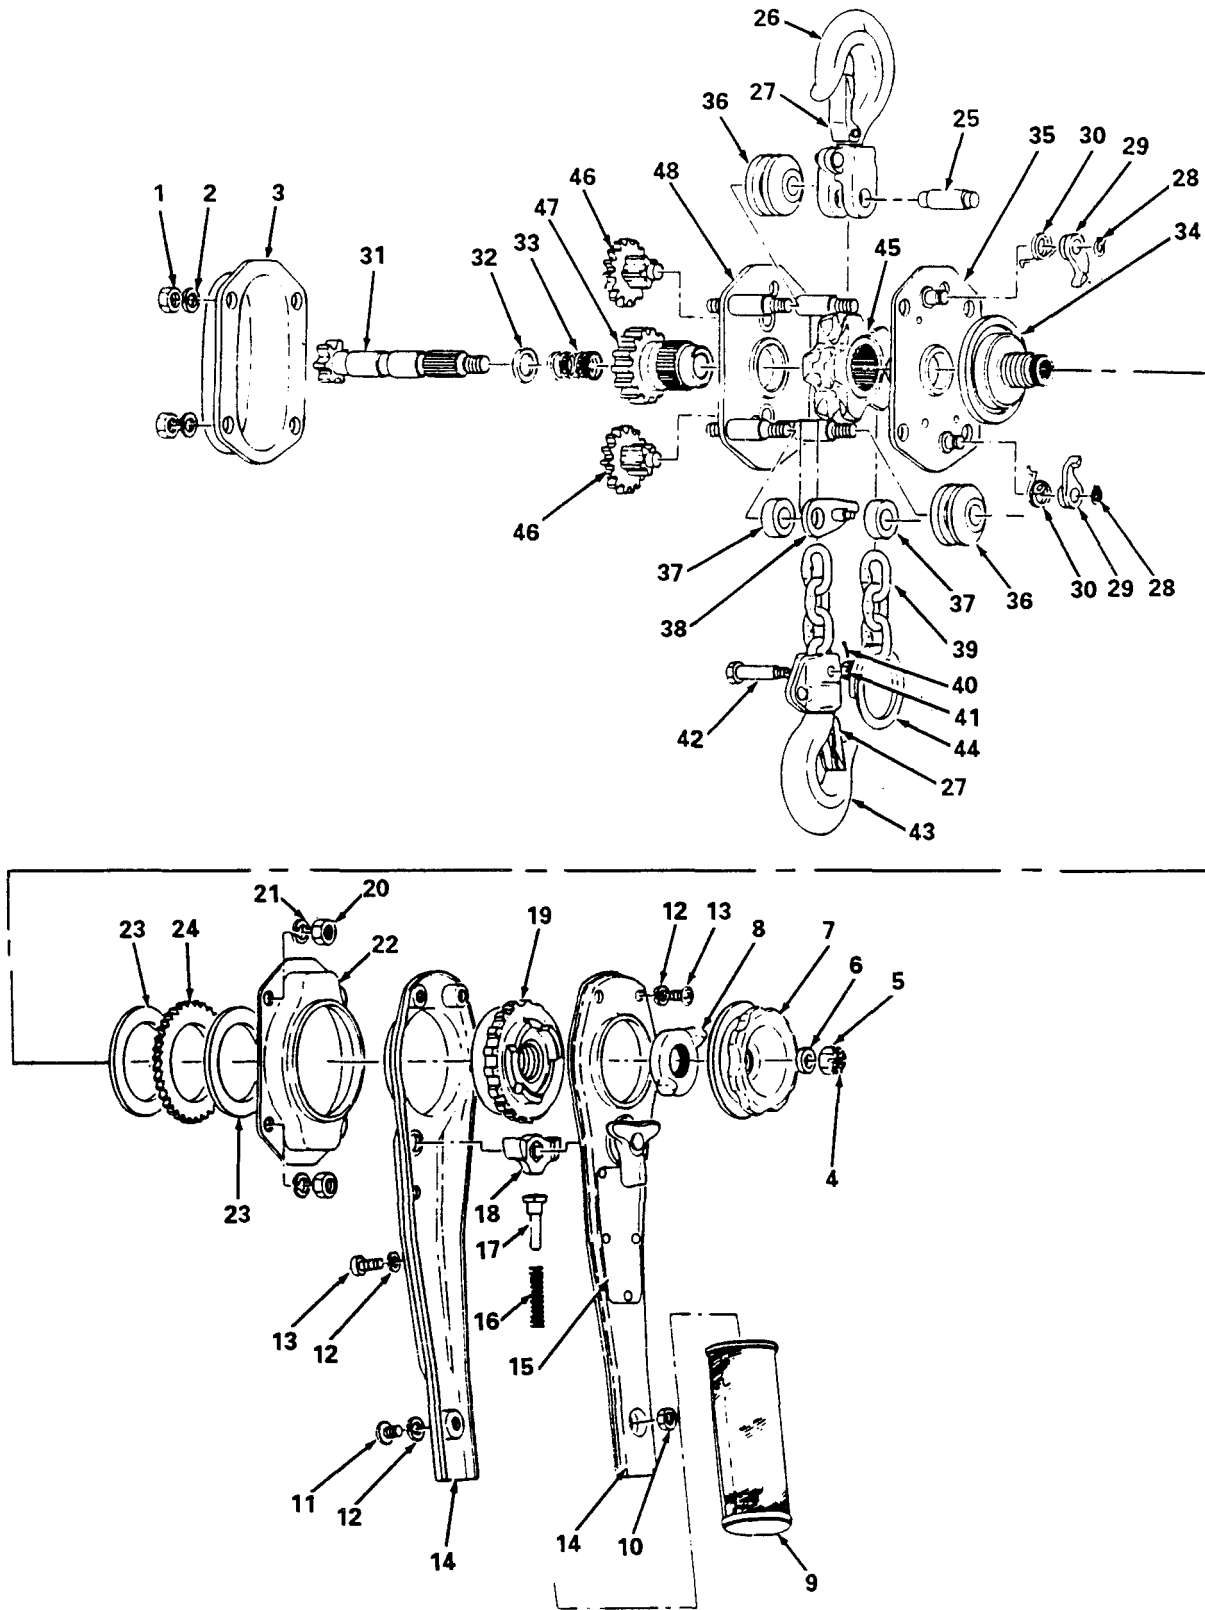

Figure 6-2. Chain Hoist, Disassembly.
a. Repair (figure 6-2)
- (a) Remove four nuts (1) and washers (2) securing gear case (3) and remove gear case (3).
- (b) Remove split pin (4) slotted nut (5) and washer (6).
- (c) Remove free wheeling knob (7) and cam guide (8).
- (d) Slide grip (9) off lever assembly.
- (e) Remove nut (10), screw (11) and washer (12).
- (f) Remove three screws (13) and washers (12). Remove outside half of lever assembly (14) with nameplate (15) installed.
- (g) Remove change-over spring (16), spring shaft (17), change-over panel (18) and female thread assembly (19). Then, remove inside half of lever assembly (14).
- (h) Remove four nuts (20) and washers (21) attaching brake cover (22) to slide plate A assembly (35). Remove brake cover (22).
- (i) Remove two friction plates (23) and ratchet disc (24).